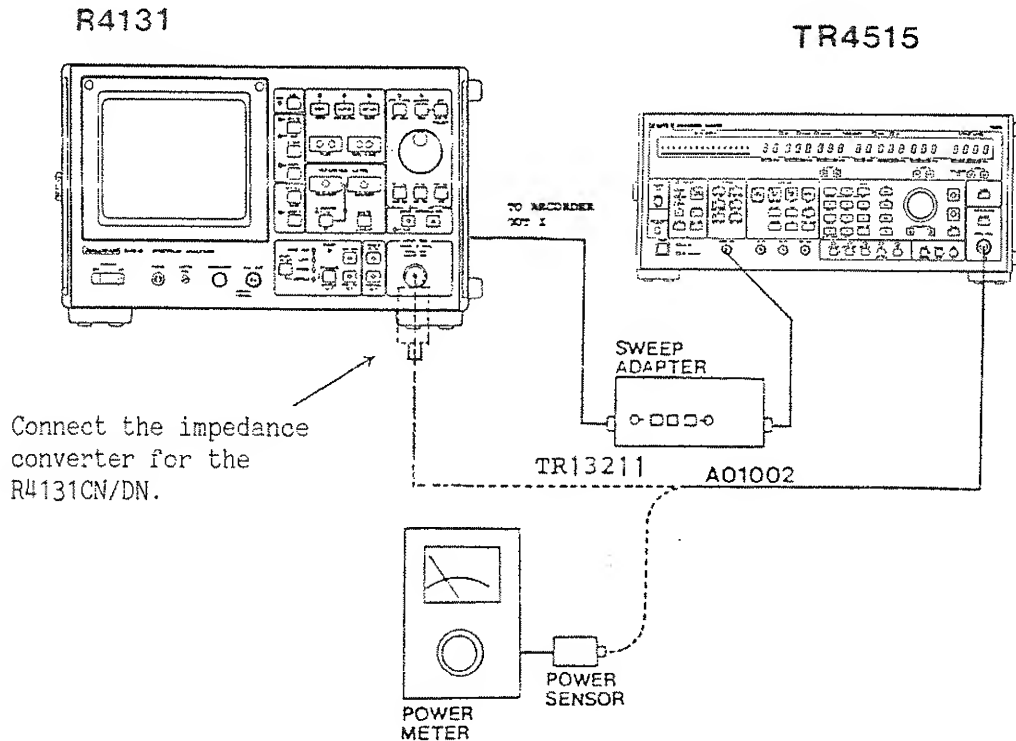

Figure 11-19 Frequency Response Test Setup
- ① Set the R4131 as follows:
- ② Set the sweep oscillator output to 200 MHz (CW), -10 dBm and connect it to the power meter using the A01002 cable. Adjust the output level of the sweep oscillator to -10 dBm. (See Figure 11-19.)
- ③ Connect the sweep OSC output to the spectrum analyzer INPUT connector. Connect the impedance converter for the R4131CN/DN. (See Figure 11-19) With its amplitude set to 2 dB/division, set the reference level to display a 200 MHz signal on the center axis of the display screen.
- ④ Set the sweep oscillator to the external sweep mode, and set the start and stop frequencies to 10 MHz and 4 GHz, respectively.
- ⑤ Press the sweep adapter START switch, and adjust the START dial to display the signal at the leftmost position on the display screen. Next, press the STOP switch and adjust the STOP dial to display the signal at the rightmost position on the display screen.